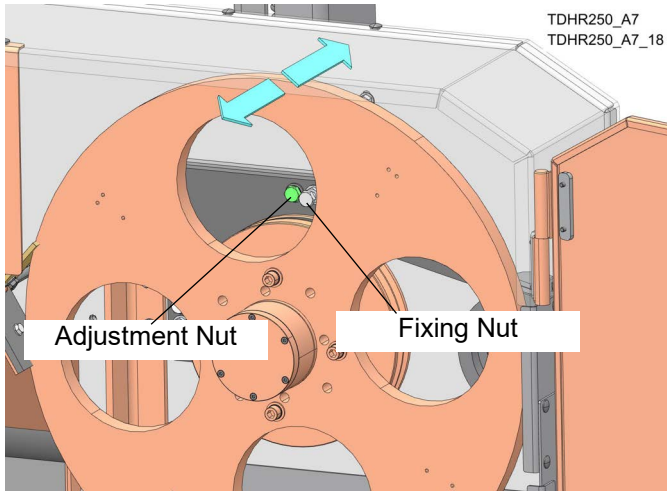

FIG. 3-16
6. Loosen top fixing nut. See FIG. 3-16